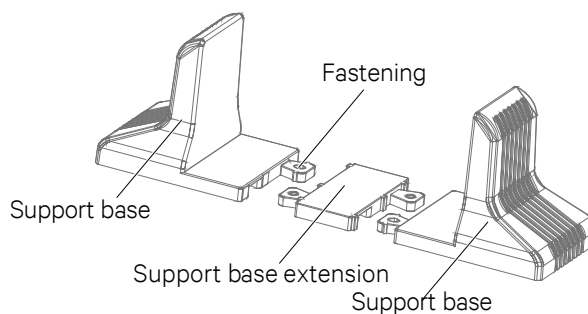

Figure 2-6 Connecting the support base with support base extension
1. Take out the support bases from the accessories, assemble a pair of support bases and a support base extension (accessory, for 16kVA/20kVA model use only) together through the fastenings, as shown in Figure 2-6, and place them onto the flat installation table.